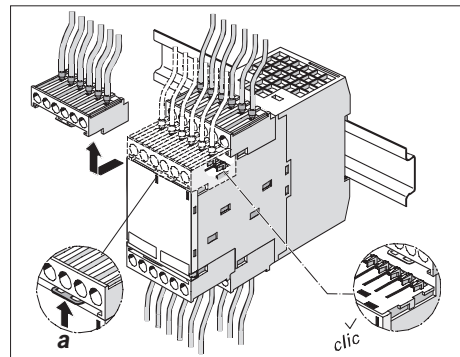

Fig. 2: Removing and fitting coded connection terminals
- To remove the coded connection terminals, push away locking spring **a** and pull off terminal to the front (see Fig. 2).